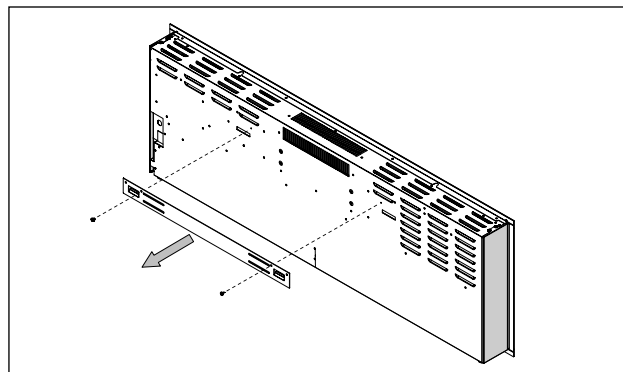

Fig. 1
4. Place the appliance face down on a soft, non-abrasive surface. Remove the bracket from the back of the appliance by removing the screws (**Fig. 1**). Set the bracket aside and discard the screws.